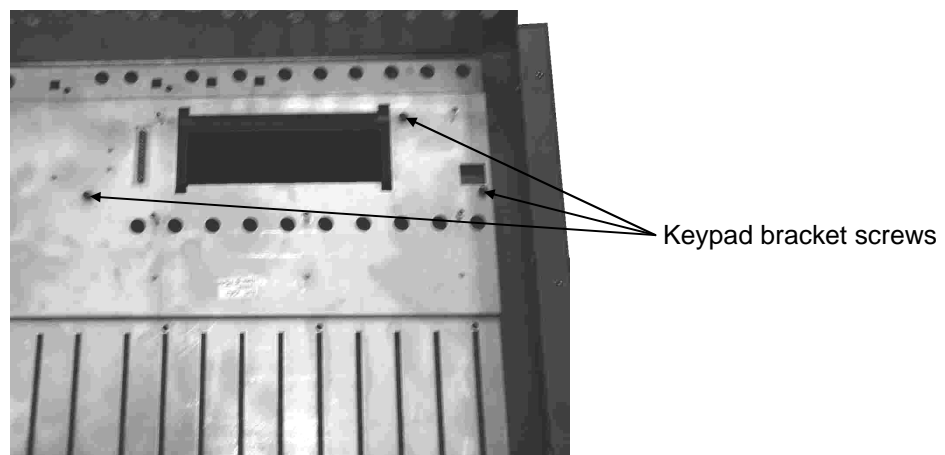

fig.20
- 6) Remove the 3 screws from the Keypad Bracket (see fig.20)